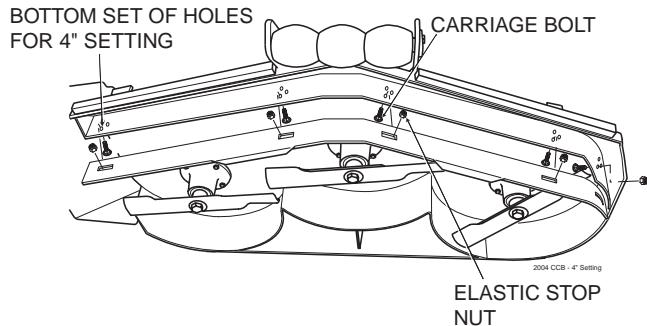

Figure 11. 4" Custom-Cut Baffle Position
- C. 4" Position - baffle is installed using the bottom set of holes on the front baffle welded inside the cutter deck. (See Figure 11, Page 12). Placing the baffle in the 4" setting will enhance fall cutting (leaf pickup) and reduce cutter deck "blowout".